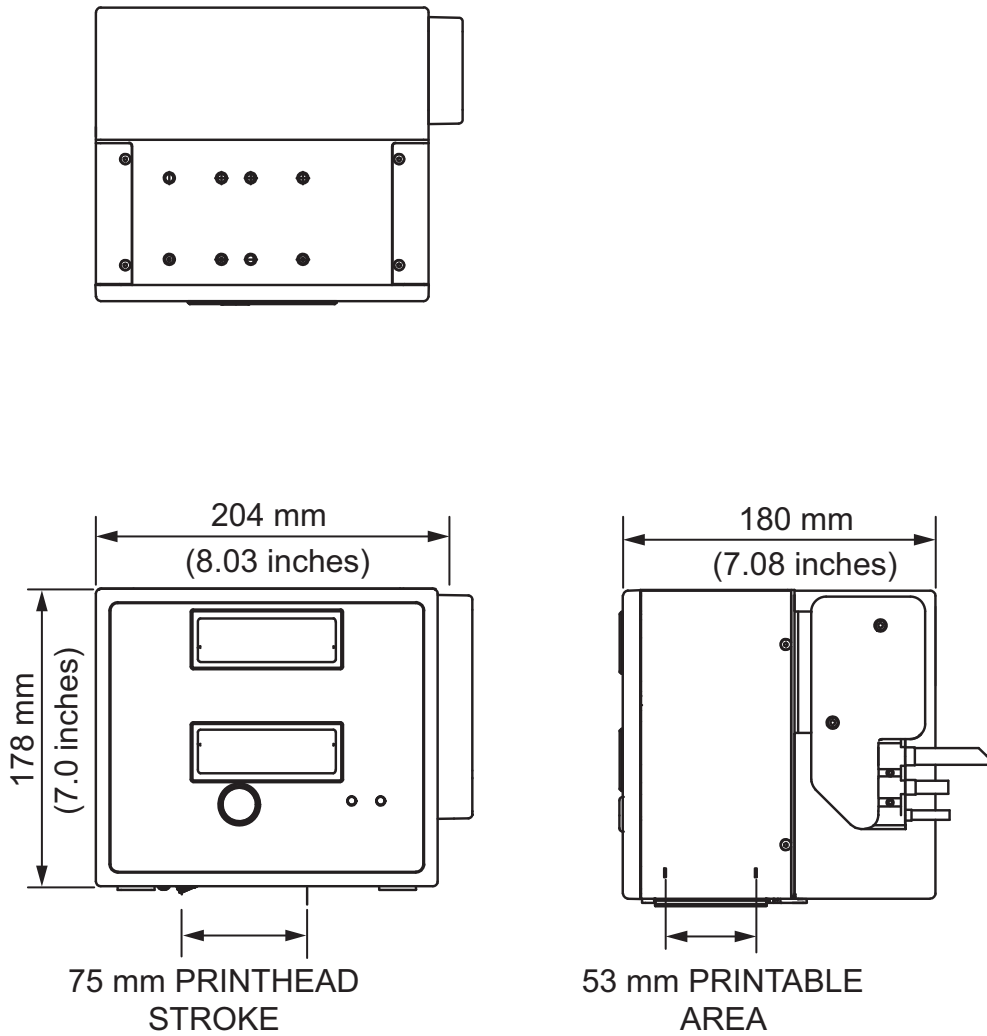

Figure A-1: Videojet DataFlex 6530 53mm RH Printer Dimensions
Figure A-1 shows the dimensions of the 53 mm (RH) printer.